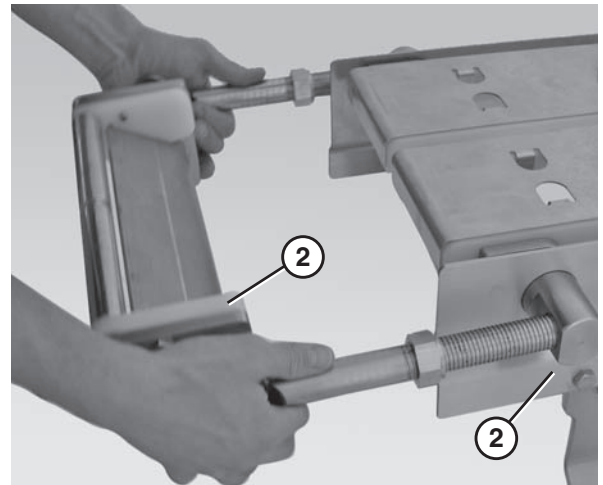

Figure 83
4. Slide the nose bar tail assembly (**Figure 83, item 1**) out of the take up blocks (**Figure 83, item 2**).